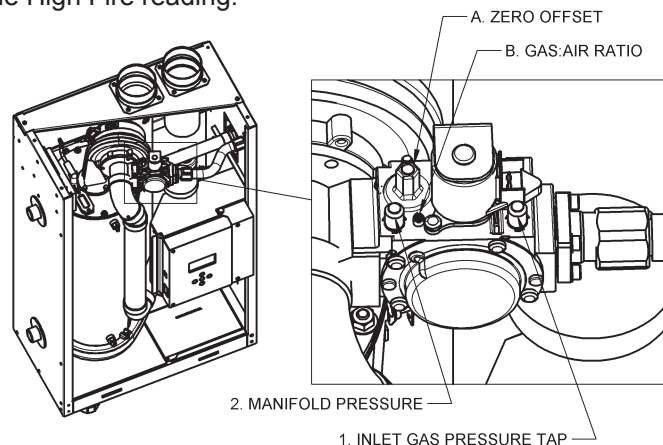

Figure 37: Gas Valve and Pressure Reference System
To verify the proper operation of the gas valve in the field, the following procedure can be carried out by a qualified technician (see Figure 37).
3. With a combustion analyzer probe in the flue gas test port, turn the Gas:Air Ratio Adjustment screw (see Figure 37, "B") to achieve results (see Table 7 below for corresponding CO and CO2 values - set for CO at high fire). This screw offers very fine adjustment, and may require several turns.